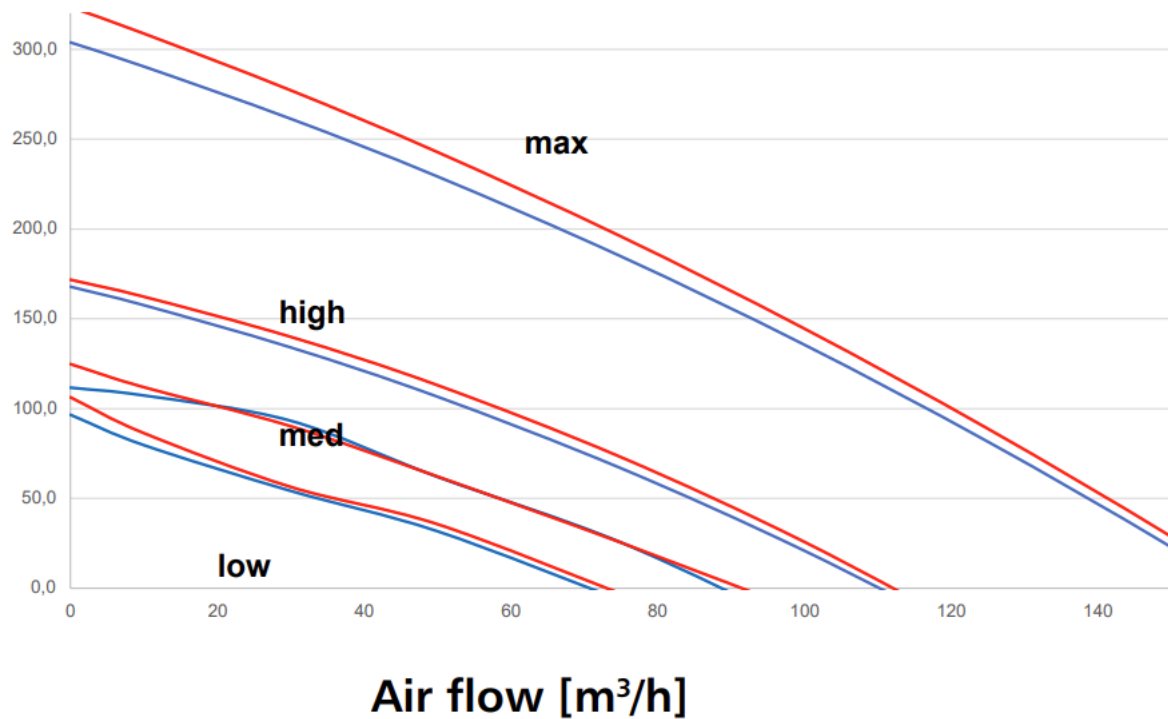

Figure 7. Total pressure for HRU-FlatAIR-120E
- HRU-FlatAIR-120E-H 120 m3/h (at 100 Pa) [Fig. 7]